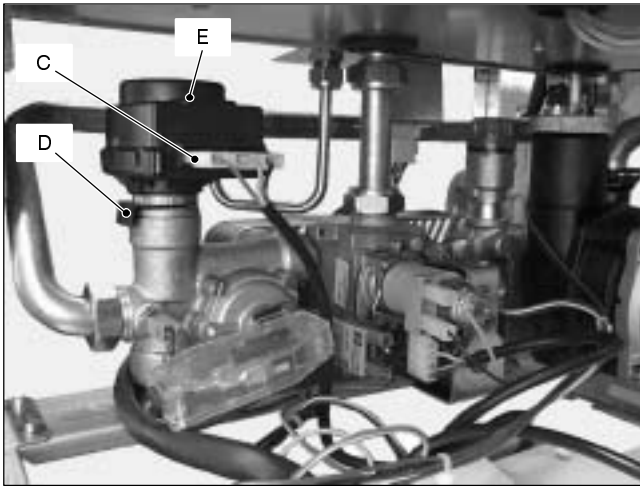

Fig. 24
- 2 Disconnect the connectors *C* (Fig. 24).